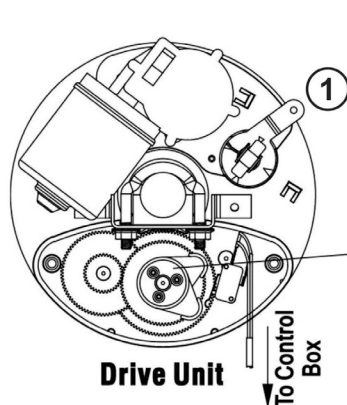

Fig 14
- 7.2 Remove the limit cover to expose the Limit Adjust Cams (Opening and closing limit cams - Fig.14 and 15).